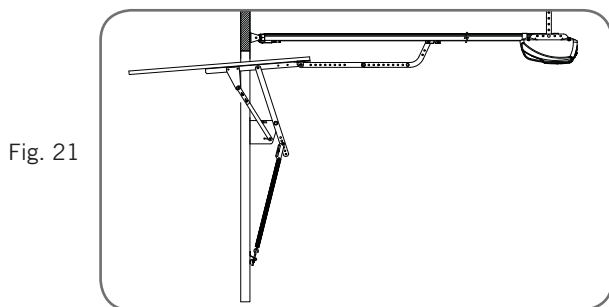

Fig. 21
- Assemble the bent and straight arms as shown in (**Fig. 21**) with bolts and nuts supplied in the accessory pack. Always use both the bent and straight arms.